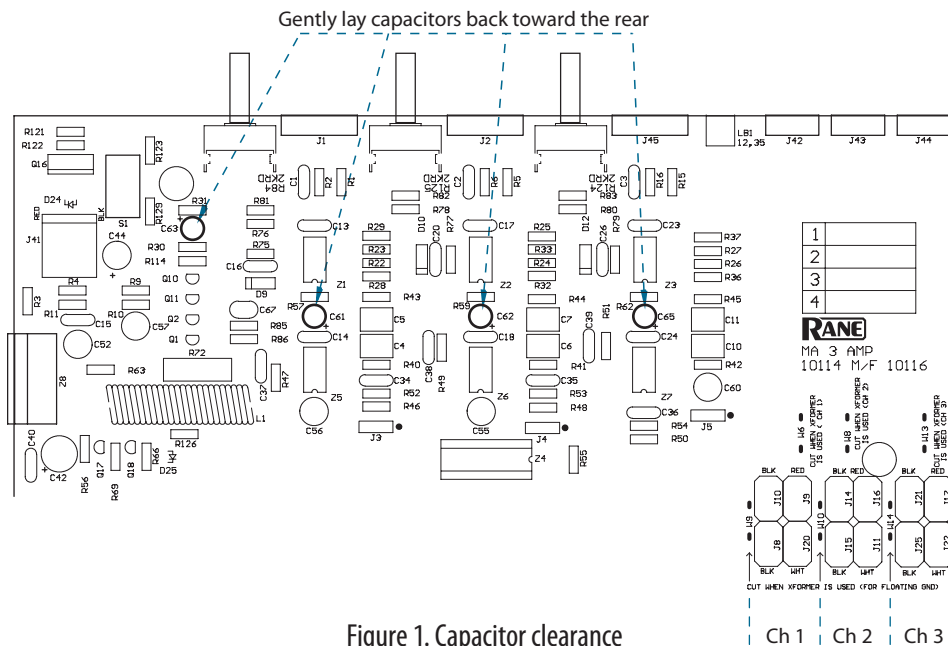

Figure 1. Capacitor clearance
3. Capacitors C63, C61, C62 and C65 need to be laid toward the rear of the unit (Figure 1). *Don't* press on parts, just gently lay them over.